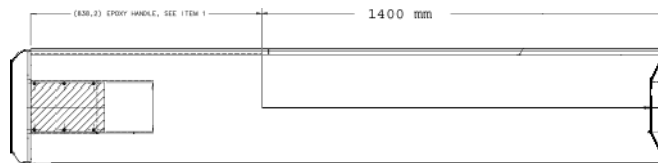

Figure 1-29 Use bolts to adjust cradle
- 2.) Adjust the cradle as needed, using the six bolts located on the back of the cradle (Figure 1-29).